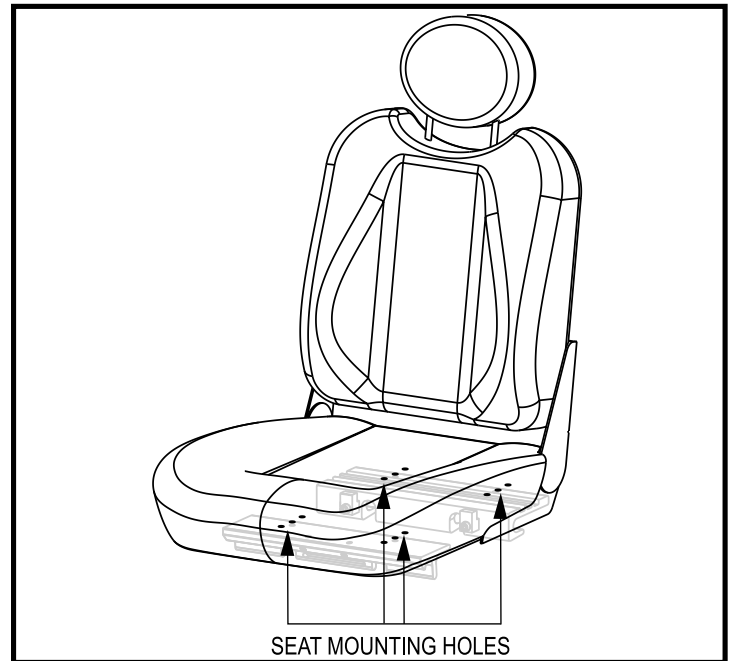

Figure 13. Seat Mounting Holes
5. Reposition the extrusions on a different set of mounting holes. You must move both extrusions the same number of holes either forward or backward. See figure 13.